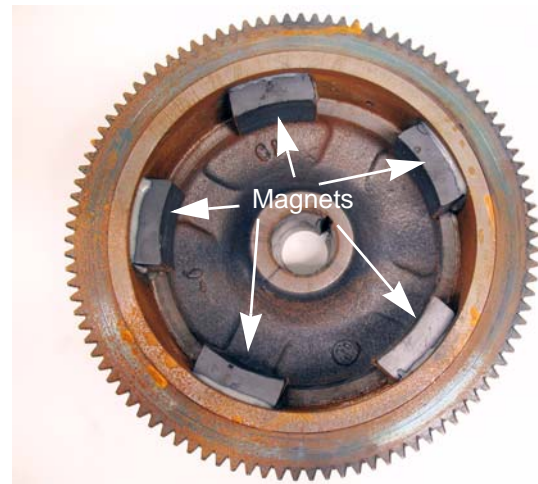

Figure 6.14
- **Alternator rotor:** The rotor consists of five magnets on the inside of the flywheel that rotate around a stator that is mounted to the cylinder block. As the crankshaft and flywheel rotate, the moving magnets induce a charge in the stator. See Figure 6.14.